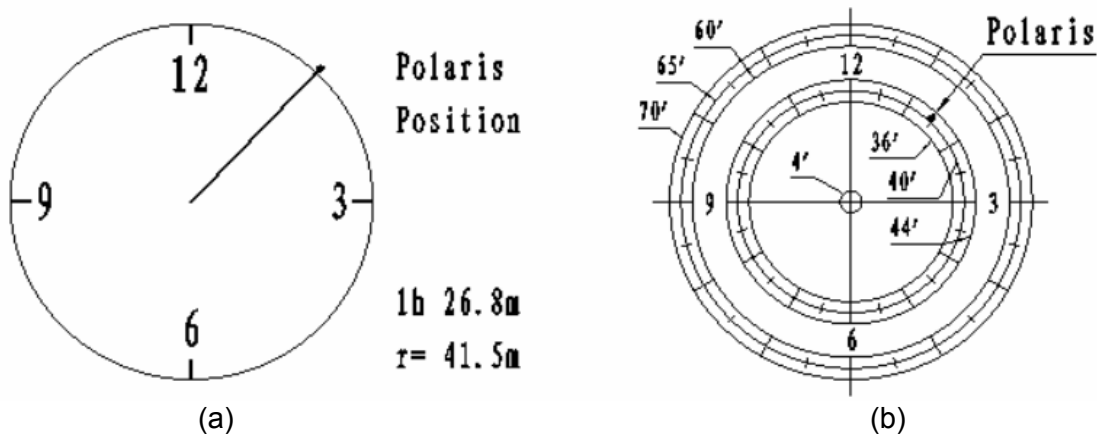

Figure 13
- (1) Turn on the mount power by pressing the **On/Off** switch on the R.A. unit. Pressing the **MENU** button, then select “**Align**” and “**Pole Star Position**”. For example, on May 30, 2010, 20:00:00 in Boston, US (Lat N42°30’32” and Long W71°08’50”), 300 min behind UT, the Polaris Position is 1hr 26.8m and r= 41.5m, as shown in Figure 13 (a).
- (2) Look through the polar scope; make sure the polar scope is not blocked by the DEC axle. The 12 o’clock indicator of the Polar Scope Dial must be positioned on top.
- (3) Follow the **Polar axis adjustment** procedure (**not the hand controller**) to adjust the mount in altitude (latitude) and azimuth (heading) direction and place Polaris in the same position on the Polar Scope Dial as indicated on the HC LCD. In this case, the Polaris will be located at a radius of 41.5’ and an angle of 1 hour 26.8 minute, as shown in Figure 13 (b).
Remove the CW Safety Screw on the end of the CW shaft. Loosen the CW Locking Screw on the side of the CW (there is a CW pin inside) and slide the CW into the shaft as shown in Figure 13(a). Tighten the CW Locking Screw to hold the CW in place. Tighten the CW Safety Screw.